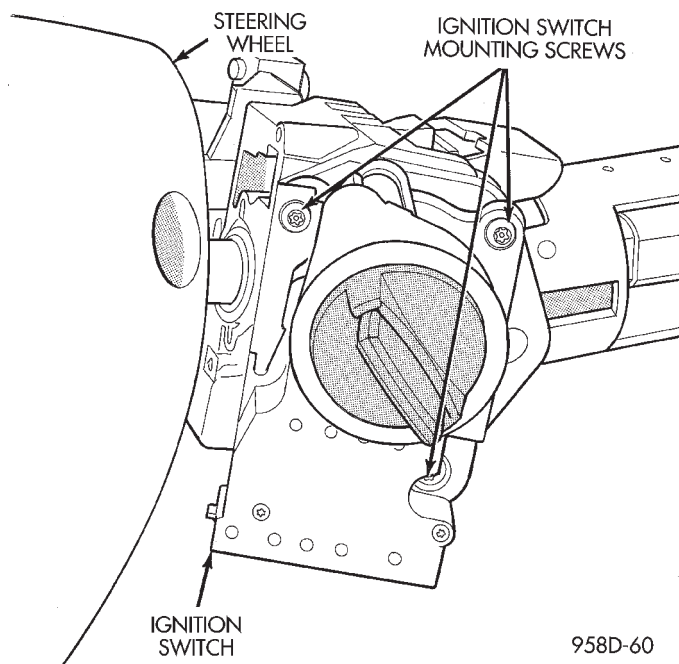
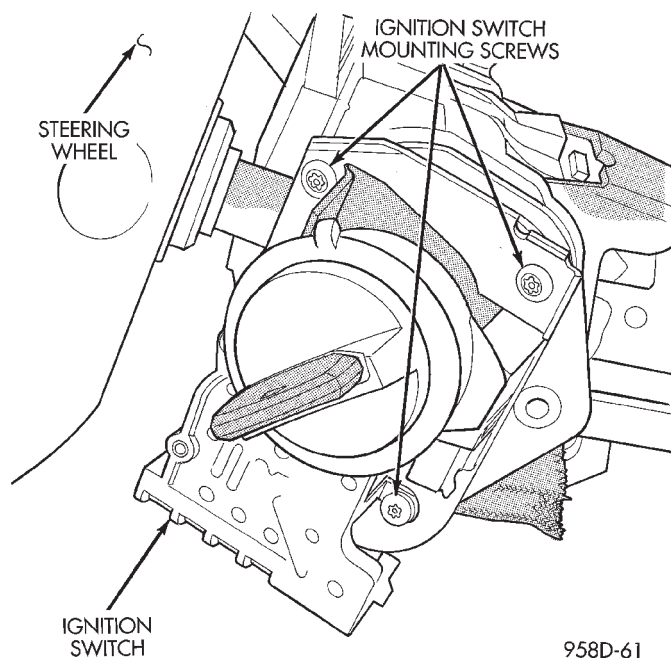

Fig. 48 Ignition Switch Screw Removal
Fig. 49 Ignition Switch Screw Removal
(4) Remove ignition switch mounting screws. Use tamper proof torx bit Snap-on TTXR20A2 or equivalent to remove the screws (Fig. 48) or (Fig. 49).